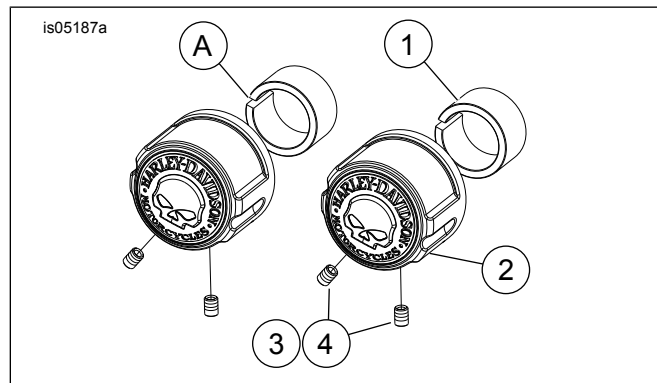
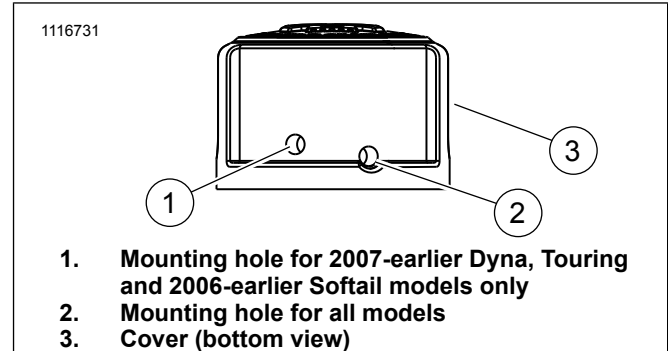

Figure 1. Front Axle Nut Cover Kit
Figure 2. Installing the Spacer and Cover
1. See Figure 1. Install spacer (1) on the axle nut and axle shaft so the slot (A) in the spacer is pointed at the 9 o'clock position.
2. Install the axle covers (2) over the spacers so the skull is in an upright, vertical position.
3. See Figure 2. Install set screws in the mounting holes (1 and 2). Tighten all four set screws securely.
1. See Figure 1. Discard the spacers (1). Install the axle covers (2) directly on the axle nut and axle shaft so the skull is in an upright, vertical position.
2. See Figure 2. Install set screws in the mounting holes (1 and 2). Tighten screw in hole (1) securely and then tighten screw in hole (2).
1. See Figure 1. Discard the spacers (1). See Figure 2. Install the 0.375 inch long set screw in one of the axle nut covers using mounting hole (2). Install the cover on nut side of axle.